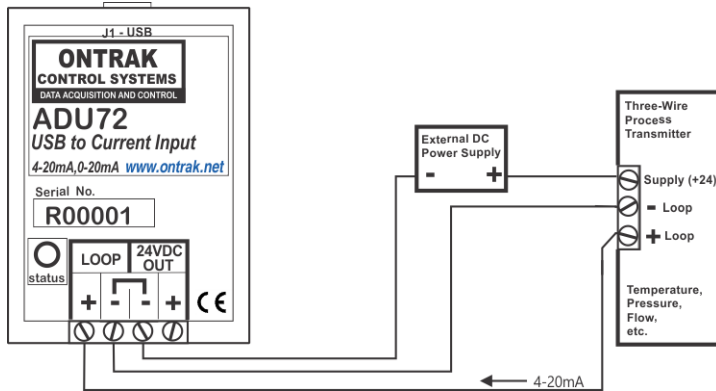

Figure 9: ADU72 connections to three-wire process transmitter using external power supply.
**CAUTION: Do not use this configuration if the three-wire process transmitter requires more than 35mA of supply current. Use external supply as shown in Figure 9.**
Figure 9 illustrates the proper connections to a three-wire process transmitter using an external power supply. This configuration is required if the process transmitter requires more than 35mA of supply current.